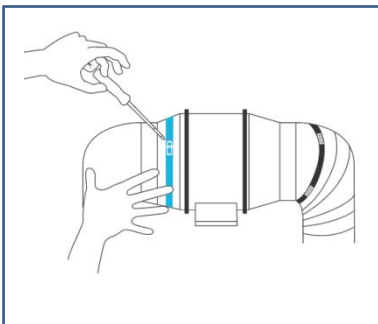

Fig.11.
- If installing ducting, purchase a suitable duct and duct clamp and secure it to both ends of the fan to ensure tight sealing. Finally, tighten the air duct clamp with a screwdriver. See the (Fig.11.)